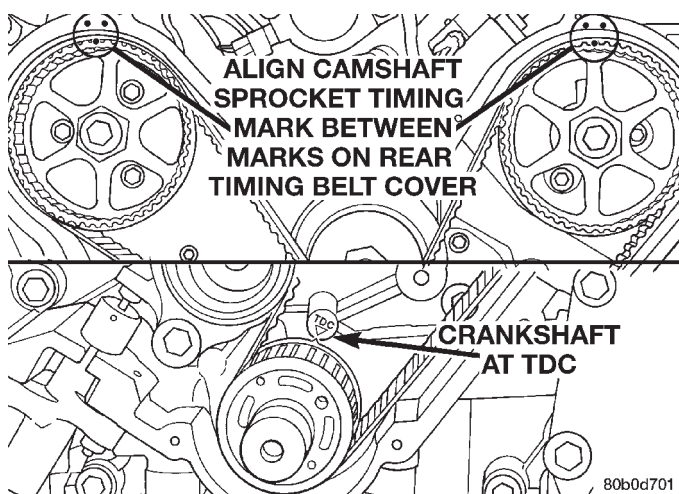

Fig. 68 Engine Timing Mark Alignment
(8) Rotate engine clockwise until crankshaft mark aligns with the TDC mark on oil pump housing and the camshaft sprocket timing marks are between the marks on the rear covers (Fig. 68).
(2) Align the camshaft sprockets (to reference mark made upon removal) between the marks on the rear covers (Fig. 68).